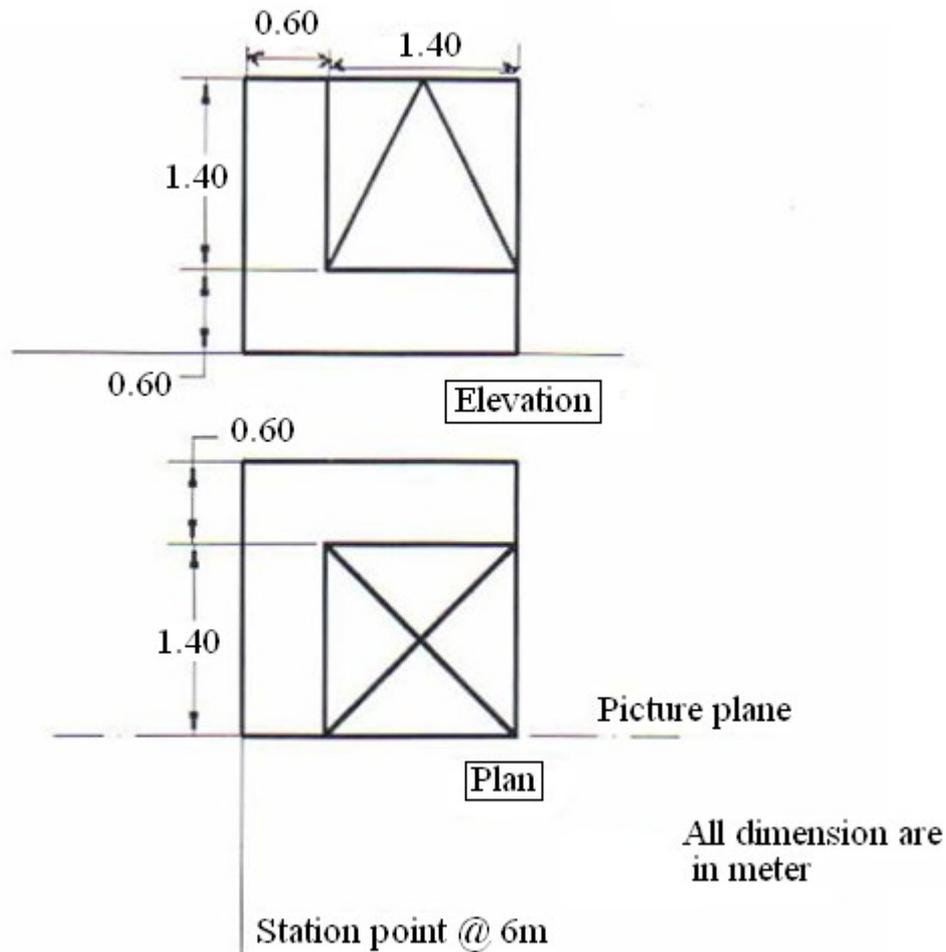

Fig. 2
Q2) (a) A bar of steel is 40mm x 40mm in cross section and is 120mm long. It is subjected to a tensile load of 200kN along the longitudinal axis and tensile loads of 500kN and 400kN on lateral faces as shown in the figure 2.a. find (a) the change in dimension of the bar and change in volume. (b) Axial tensile longitudinal load acting alone can produce same longitudinal strain. [08]
(b) The composite bar made up of Steel and Aluminum component is shown in the figure 2.b is connected to grips at its end at a temperature of 60°C . Find the stresses in both the components when the temperature falls to 20°C if, 1) The ends do not yield 2) The ends yield by 0.25mm . Take E for Aluminum and Steel as $0.7 \times 10^5 \text{ N/mm}^2$ and $2 \times 10^5 \text{ N/mm}^2$ respectively and coefficient of expansions for Aluminum and Steel as 2.34×10^{-5} per $^{\circ}\text{C}$ and 1.17×10^{-5} per $^{\circ}\text{C}$ respectively. [10]
b) Draw a one point perspective view (Fig. 2) to a scale 1:100 or suitable. Eye level positioned at 2.5 m above ground level. Retain all construction line. [10]